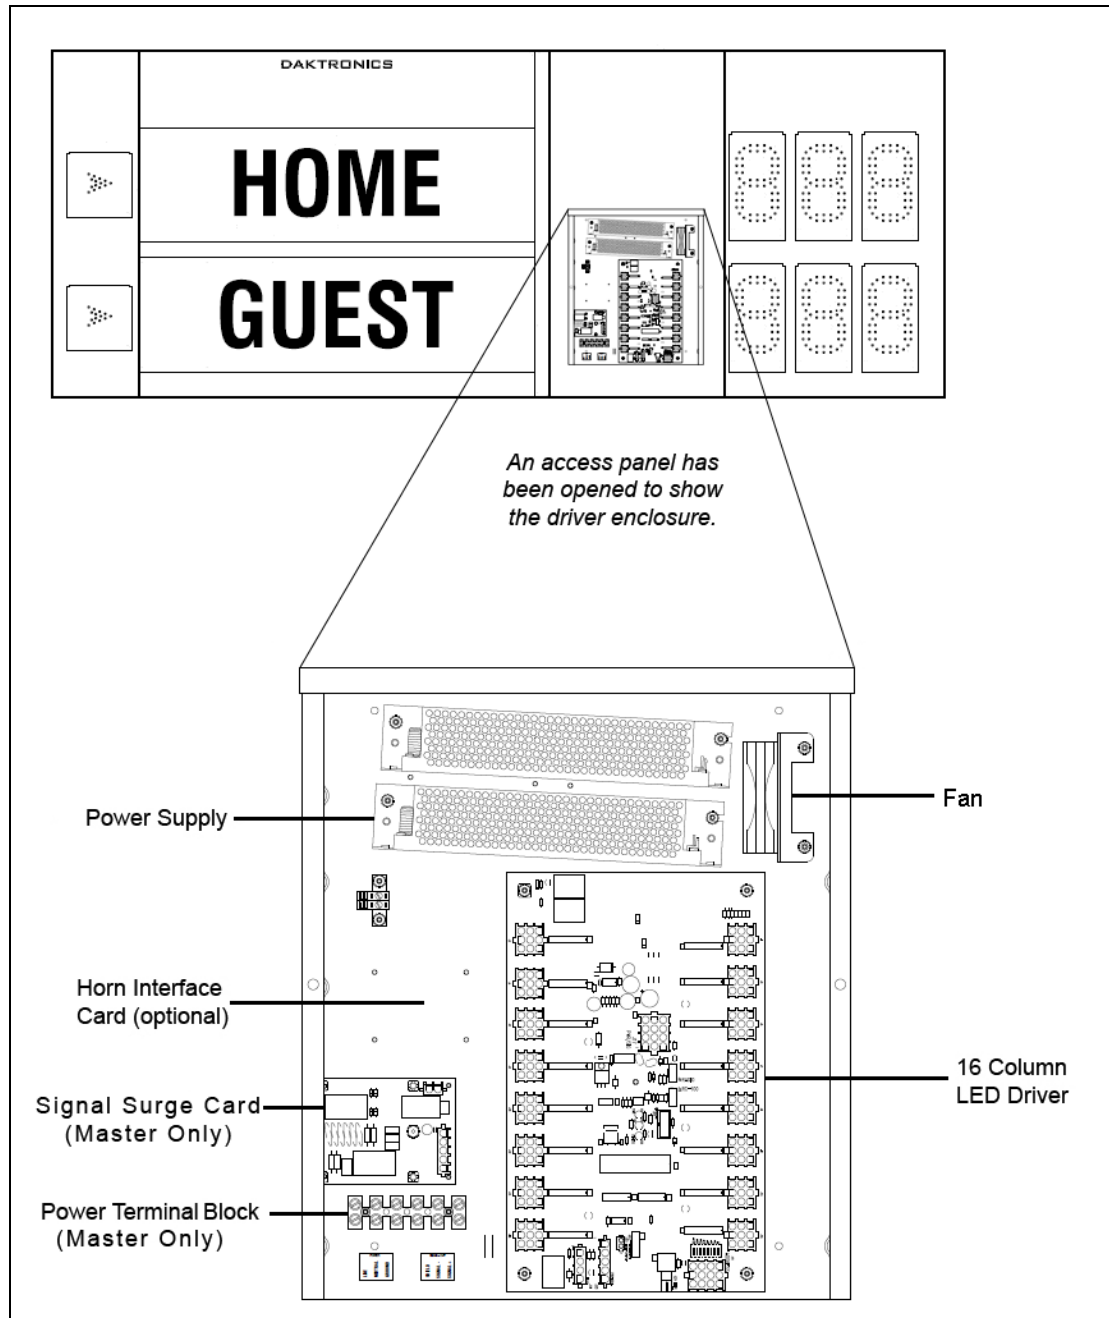

Figure 18: Driver Enclosure Location & Components
The LED drivers perform the task of switching digits on and off within the scoreboard. LED drivers are located inside of a driver enclosure. Refer to **Figure 18** to view the location and components of a driver enclosure. Driver component arrangement may vary by scoreboard model.
4. Locate the power supply (**Figure 18**) and disconnect all wires connected to it.